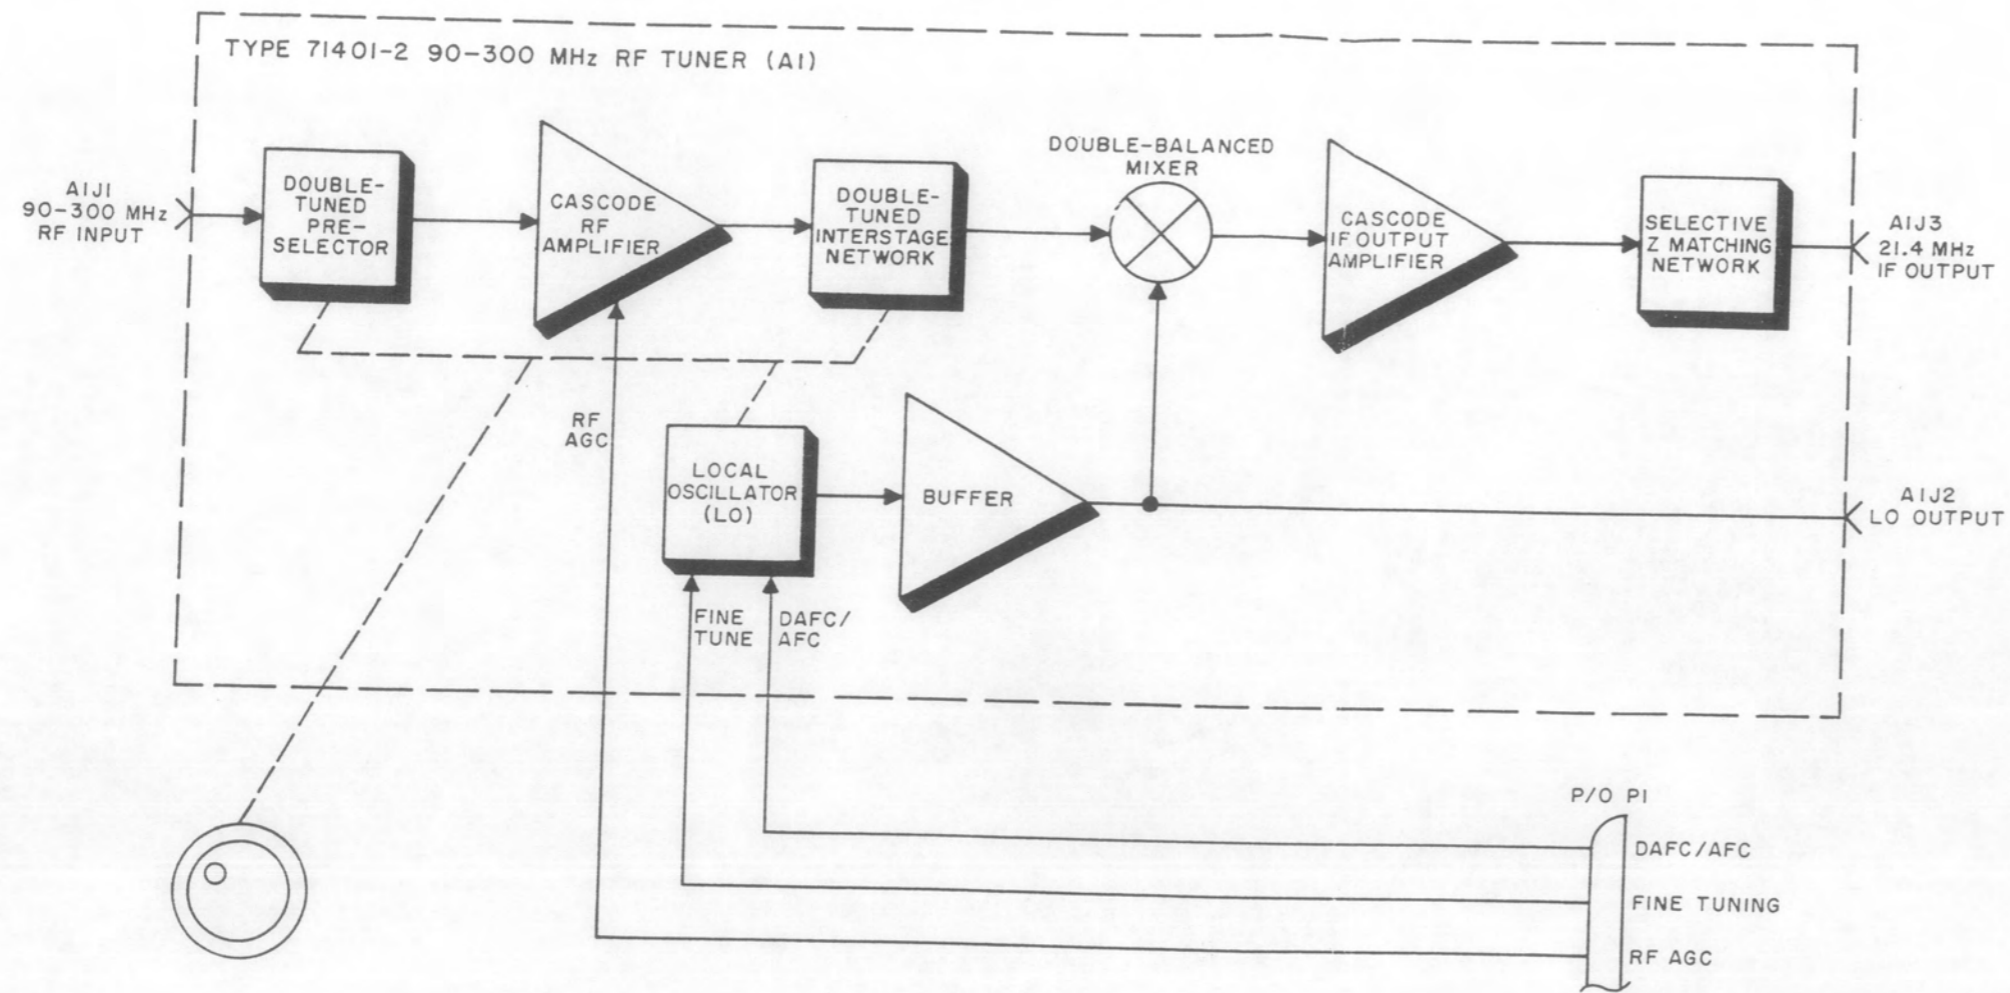

Figure 3-3. WJ-9062-3 Tuning Head (A2),
3.5.1 GENERAL. - Figure 6-3 is the schematic diagram for the WJ-9062-3 Tuning Head. Referring to functional block diagram Figure 3-3, the incoming rf signal is applied to A1J1 and then to a double-tuned preselector. After amplification by a cascode rf amplifier (the first stage of which is automatic gain controlled), the signal is applied to a double-tuned interstage network (gang-tuned with the preselector), and down-converted to the 21.4 MHz range in a double-balanced mixer designed for low intermodulation distortion. The output of the local oscillator (also gang-tuned with the preselector) is buffered before being applied to the mixer to be heterodyned with the incoming signal. The mixer output is then amplified by a cascode i-f output amplifier. A selective impedance matching network at the output of this amplifier passes the 21.4 MHz mixer output, rejects mixer sum and fundamental components, and steps down the circuit impedance to 50 ohms. The 21.4 MHz i-f output of the tuning head is made available at A1J3.